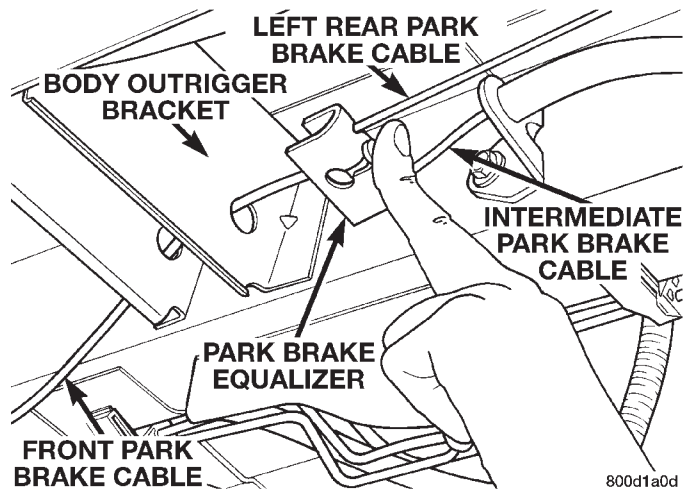

Fig. 60 Park Brake Cable Equalizer
cable equalizer (Fig. 60). This is required to gain access to the star wheel. If the cable is not removed from the equalizer, the cable and spring inside of the brake drum is in the way of the star wheel.
(1) Adjust brake shoes assemblies so as not to interfere with brake drum installation.
(2) Install the rear brake drums on the hubs.
(3) Adjust rear brake shoes per Adjusting Rear Brakes procedure in the service adjustments section of the service manual.
(4) Install the removed park brake cable back on the park brake cable equalizer (Fig. 60)
(5) Install wheel and tire.
(6) Tighten the wheel mounting stud nuts in proper sequence until all nuts are torqued to half specification. Then repeat the tightening sequence to the full specified torque of 130 N·m (95 ft. lbs.).